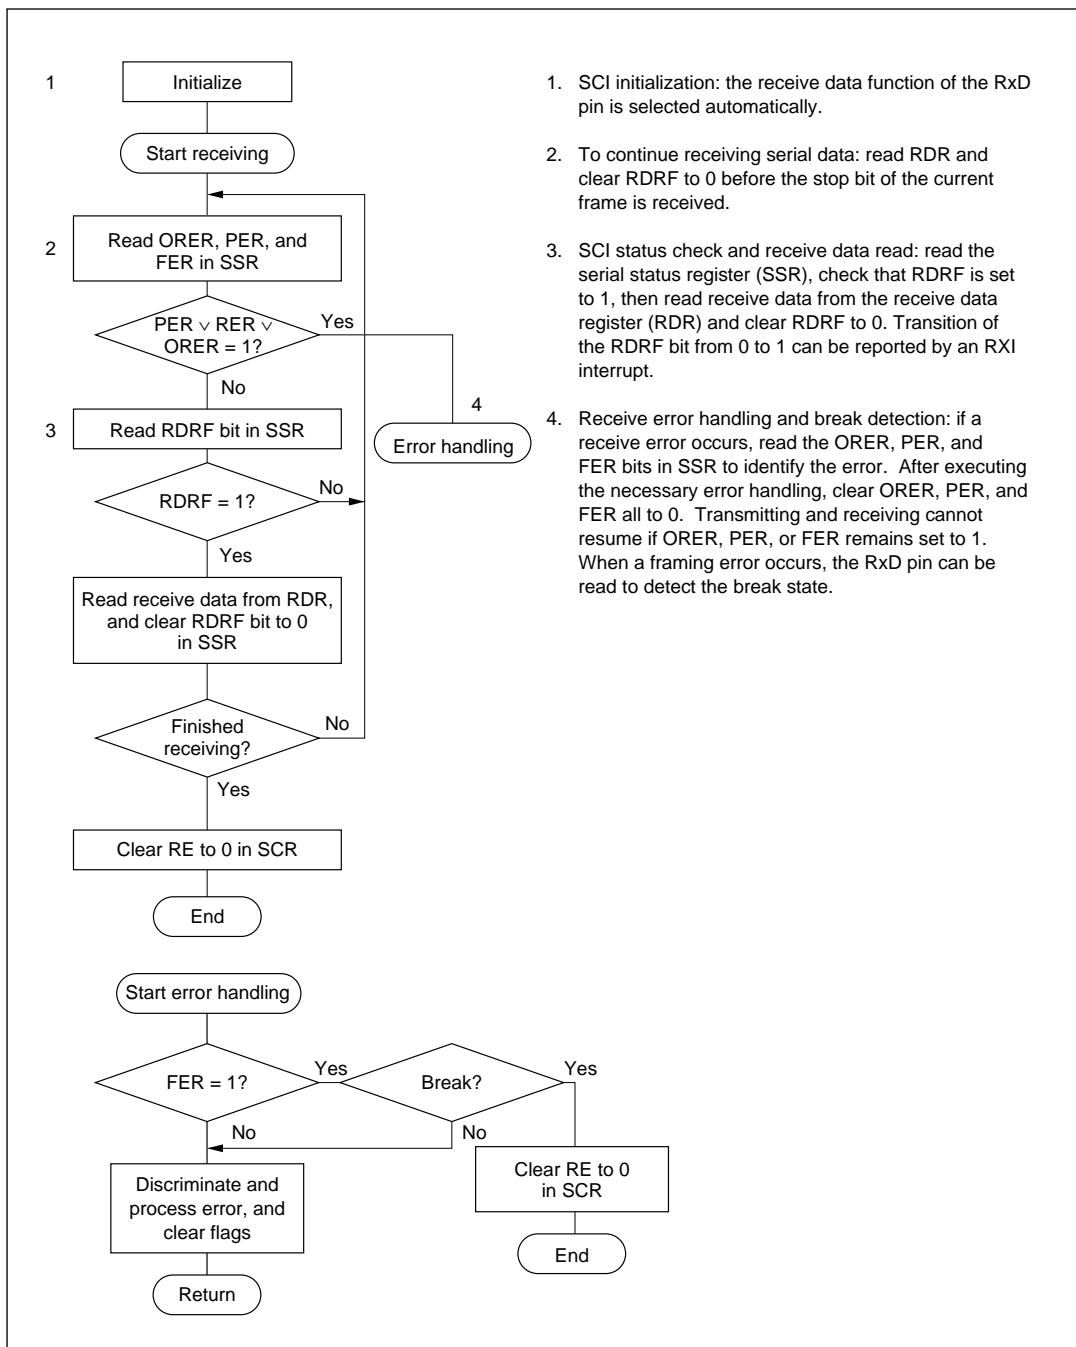

Figure 11-7 Sample Flowchart for Receiving Serial Data
- **Receiving Serial Data:** Follow the procedure in figure 11-7 for receiving serial data.